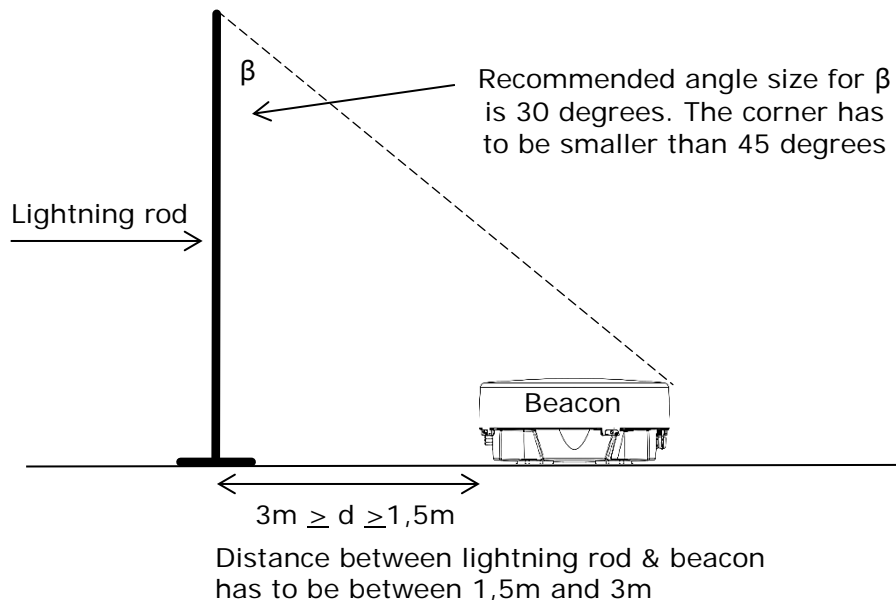

Figure 1 - Distance between the lightning rod and light
- Protect the light with a lightning rod (air terminal). Maintain the correct distances between the lightning rod and the light (see Figure 1 - Distance between the lightning rod and light).
The light(s) should be protected by an air terminal (lightning rod) directly connected to the structure's primary earthing (grounding) system. Ideally the air terminal should be mounted between approx. 1.5 meter (5 ft) and 3 meter (10 ft) away from the light and be at least high enough to cover the light completely by an angle of 30 degrees preferred (max 45 degrees), see Figure 1 - Distance between the lightning rod and light.